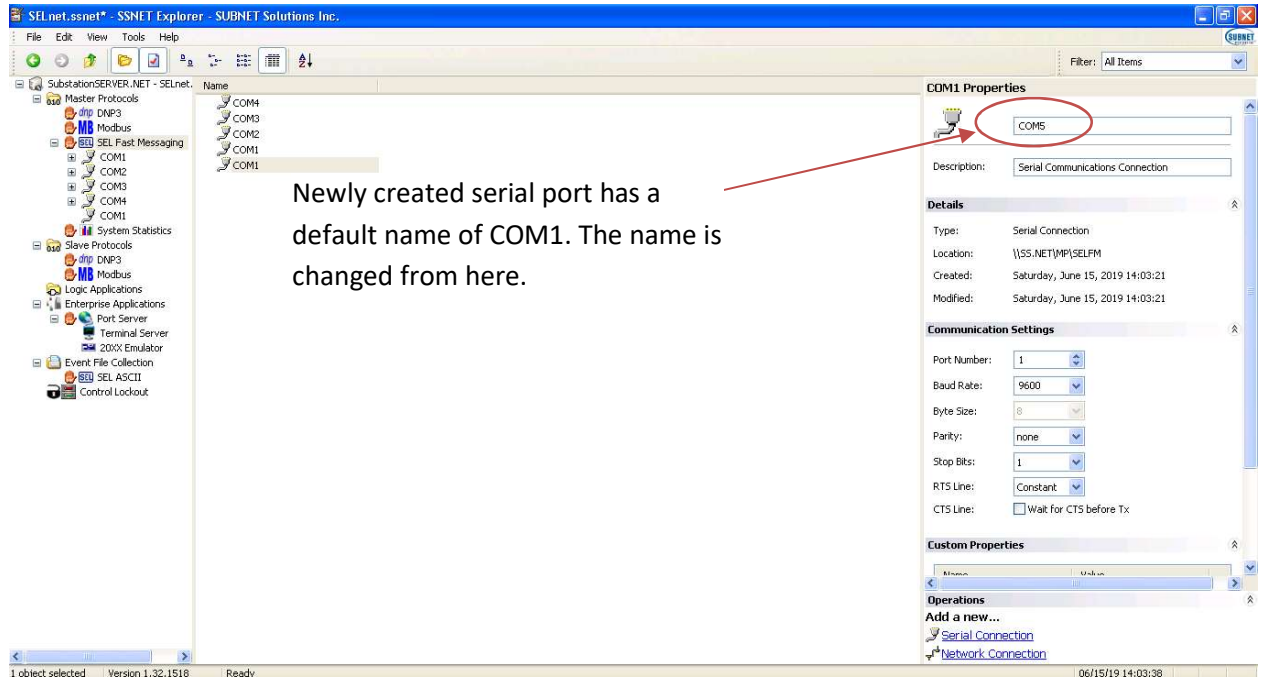

Figure 4.12 Renaming serial COM port
- 4) A new COM is given a default name of COM1. This name should be changed according to the port being used to connect the device with the Computing Platform. For this example, we are using serial port 5 so we name it COM5 as shown in Figure 4.12.